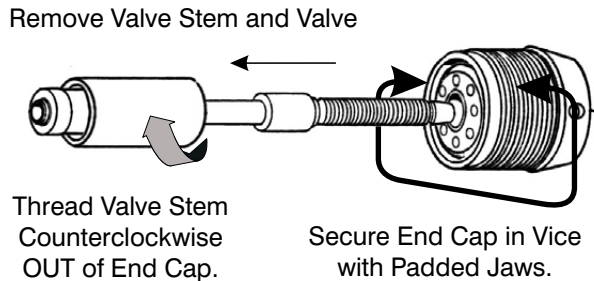

Figure 8-19. Thread the Valve Stem From the Valve Body Nut and End Cap.
- 2. Thread the Valve Stem (8) and its assembled components out of the Valve Body Nut (12) and End Cap (10), as shown in Figure 8-19.